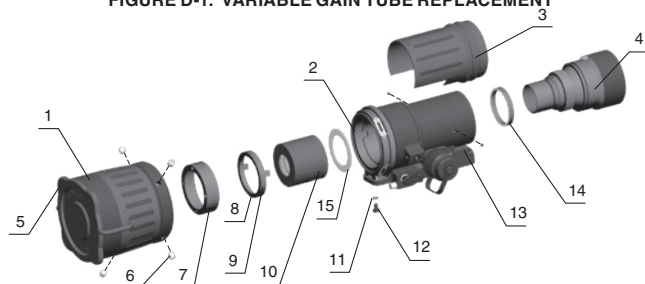

FIGURE D-2. CONSTANT GAIN TUBE REPLACEMENT
- Draw the adjusting shims (Figure D-2, 15) out the sight (constant gain tube).
- Screw the lock ring (Figure D-2, 2) and tight it lightly.
- Looking through the telescope, turn adjustment screws (Figure D-2, 6) by pairs to match image of collimator crosshair with crosshair of the telescope.